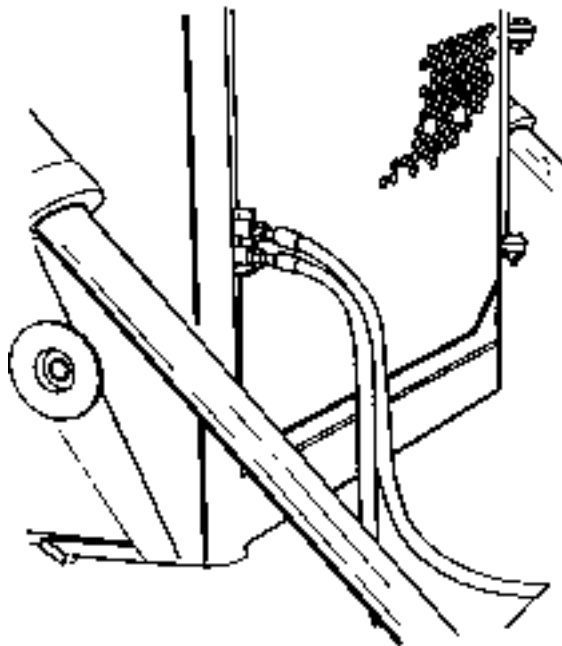

Fig. 5.37. Blade Tilt Hoses Connection Location
2. For machines with hydraulic tilt: disconnect the hoses (Fig. 5.37). Fit and secure plugs to the ends of hoses and pipes.